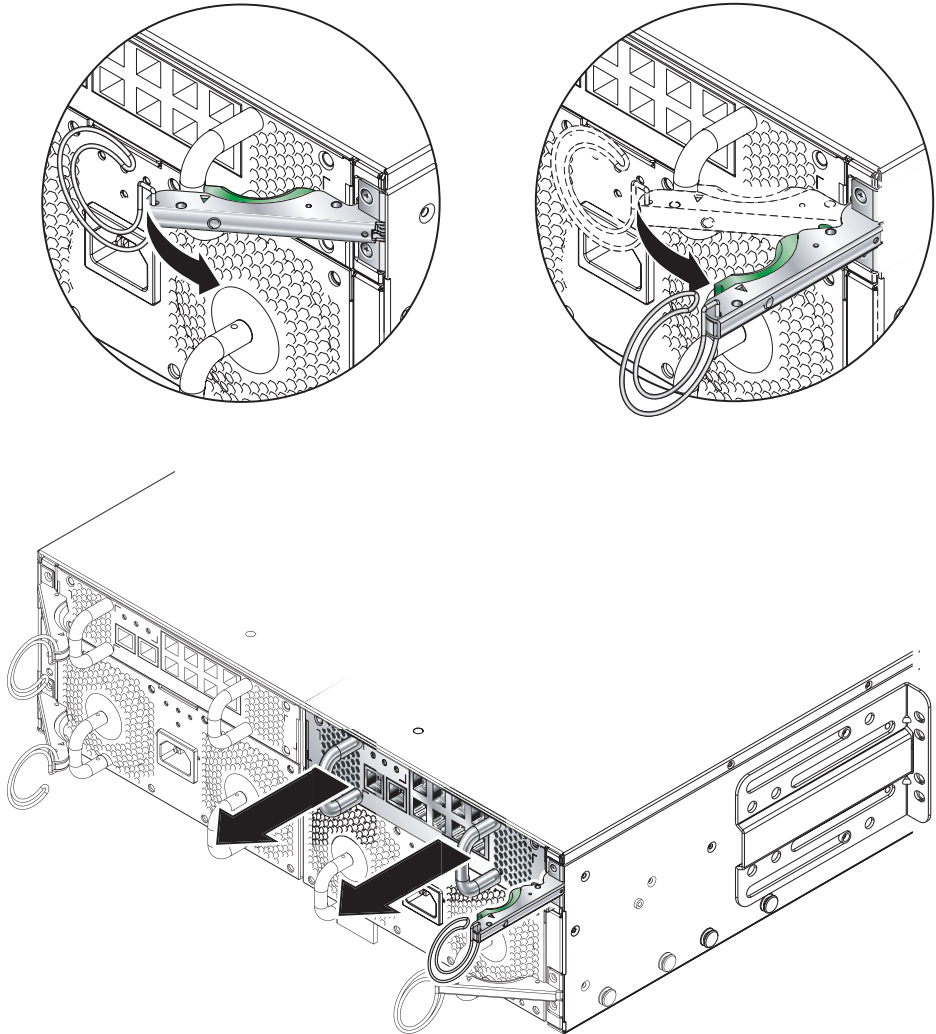

FIGURE 4-14 SSC Ejector Lever
1. Squeeze the green SSC ejector lever to unlatch it, and then pull the lever towards you to disconnect the SSC from the system chassis (FIGURE 4-14).
2. Check that the ejector lever is open fully and clear of the SSC module (FIGURE 4-14).